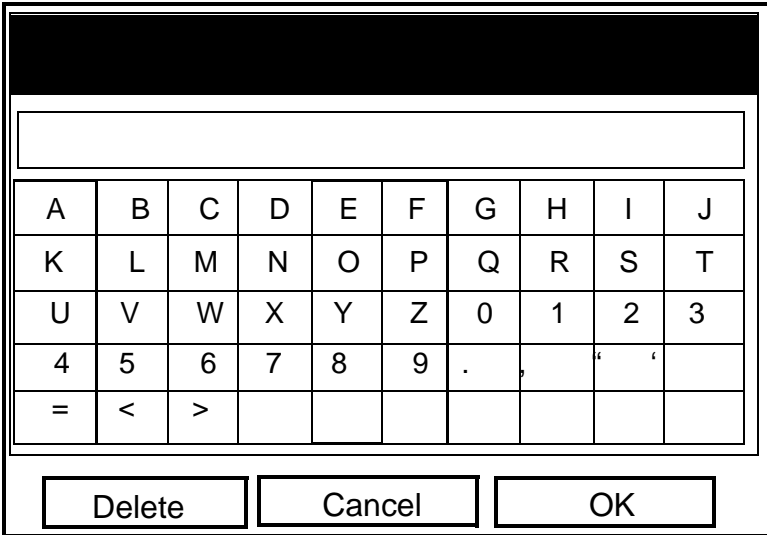

Figure 3-13: The Text Creation Window
- a. Press [ENTER] to enter the text box. The text creation window appears, as shown in Figure 3-13 below.